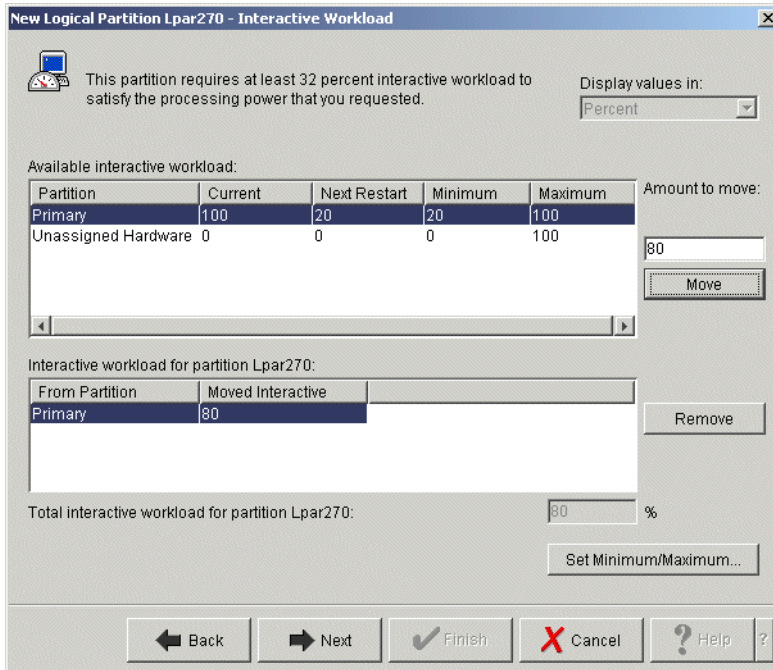

Figure 4-18 New Logical Partition - Interactive Workload window
15. The wizard states in the top of the window that the new partition needs at least 32 percent interactive workload. In the Amount to move field, type the amount. In this example, we are moving 80 percent into our new partition Lpar270 as shown in Figure 4-18. Click **Next**.